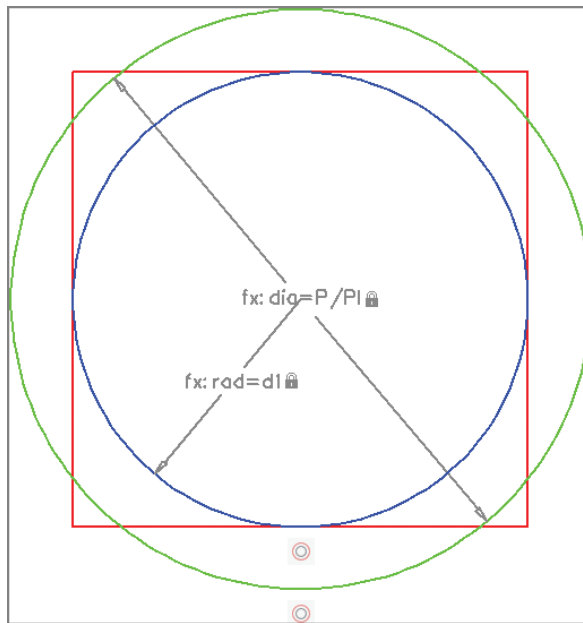

FIGURE 12.10 Constraining the blue circle geometrically and dimensionally
5. Select the Radius constraint tool in the Dimensional panel, select the blue circle, and click a point inside the circle to locate the dimension line. Type **rad=d1**, and press Enter. The blue circle changes size so that it fits perfectly within the square (see Figure 12.10).